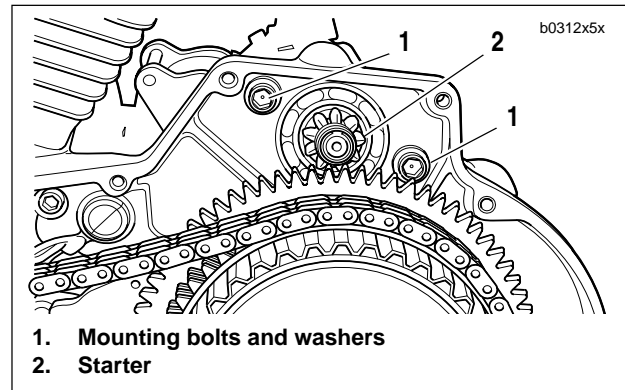

Figure 5-8. Starter Mounting
4. See Figure 5-8. Remove two starter mounting bolts and washers (1).